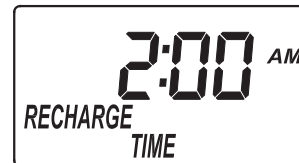

FIG. 21
1. If you completed the previous steps, the words "RECHARGE TIME" should show in the display (See Figure 21). Otherwise, press the SELECT button several times until they do.